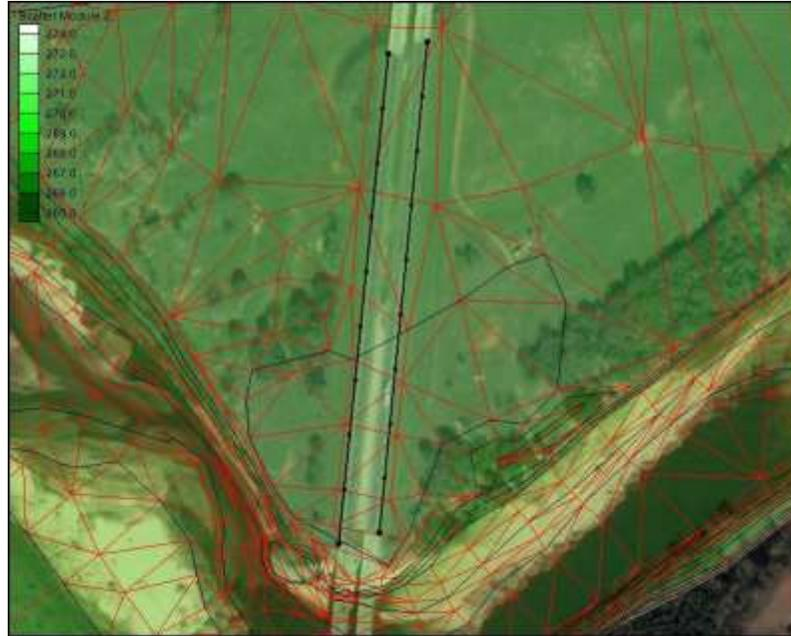

Figure 14 TIN with additional inserted points
8. In the *Redistribute Vertices* dialog, make sure “Specified Spacing” is the redistribution option and enter an *Average* value of “50” ft. This is the approximate spacing of the vertices in the TIN. It is useful to be consistent with spacing when possible and it is not excessive. The resulting arcs, with their distributed vertices should appear as shown in Figure 14. Click **OK**.